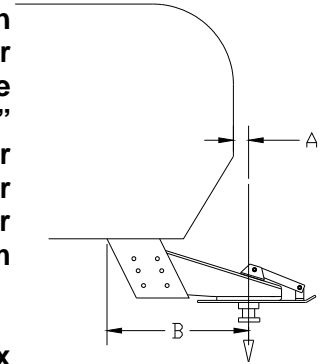
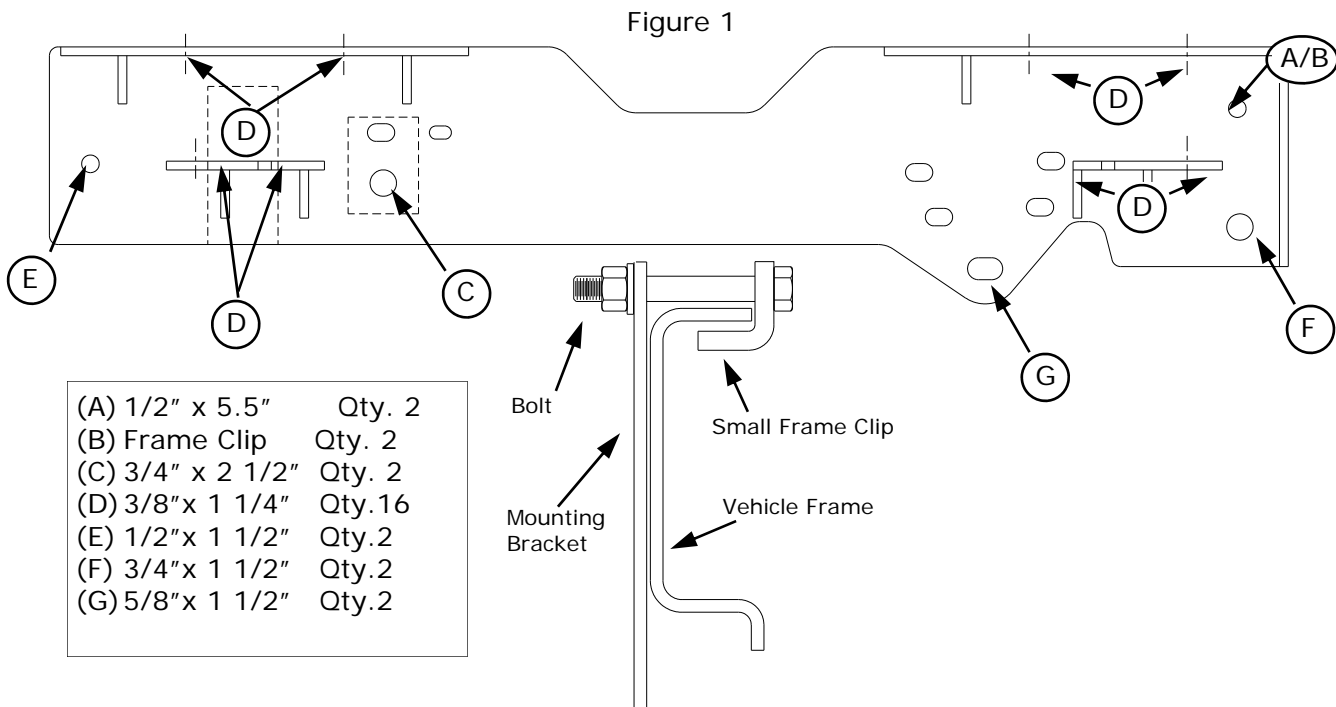

Figure 1
Figure 2
As a general rule, for the SuperGlide hitch to maintain proper clearance to the truck, the leading edge of the trailer (measured at the corner) should be even with the center of the king pin. (Figure 1). Most truck trailer combinations will allow 102" wide trailers if the king pin is located as described. Narrower trailers will allow the king pin to be "tucked" under the trailer over hang to some extent. Call PullRite technical support with trailer width, make and year of truck and distance the king pin is from leading edge of the trailer. 1-800-443-2307
Using a trailer that has a long rear slope to the King Pin Box Hangar, "B" in (Figure 1), may cause damage to the trailer or truck bed during turns. Dimension "B" must be less than one half the width of the inside top edges of the bed. Please call PullRite technical support, 1-800-443-2307, if more information concerning this problem is needed.
1. See figure 1 and parts list . The bolt holes and appropriate bolts are listed and labeled by letters.
2. Fasteners (F) will bolt to existing holes on the frame. Finger tighten only.
3. Install fastener (A) using a frame clip. See enlarged drawing in figure 2.
4. Install fastener (B) to existing frame hole. Tighten by hand.